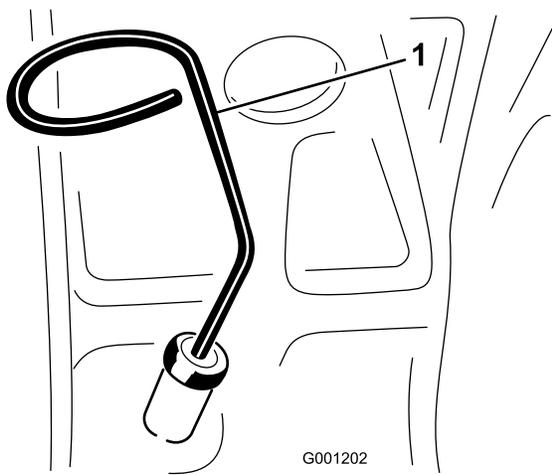

Figure 21
2. Remove the dipstick (Figure 21), wipe it clean and reinstall the dipstick. Remove the dipstick and check the oil level. The oil level should be up to the Full mark on the dipstick.